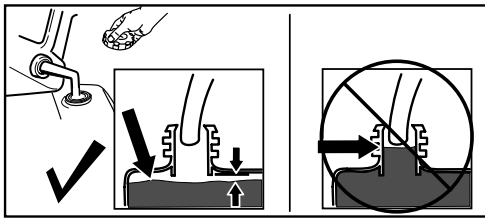

Figure 14
Fill the fuel tank as shown in Figure 14; do not fill above the bottom of the fuel tank neck.
- Remove an obstruction from the discharge chute; refer to Clearing a Clogged Discharge Chute \(page 16\). Use the snow-cleanout tool (Figure 14), not your hands, to remove an obstruction from the discharge chute.